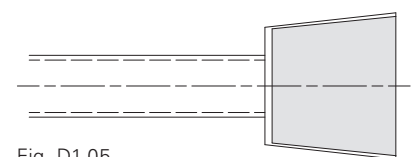

Fig. D1.05
- Sealing Compound, Item no. 108136. (Fig. D1.05)